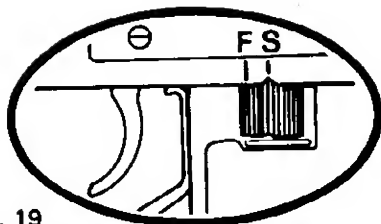

fig. 19
2. Set the fire selector on "S" (Safe). (fig. 19)